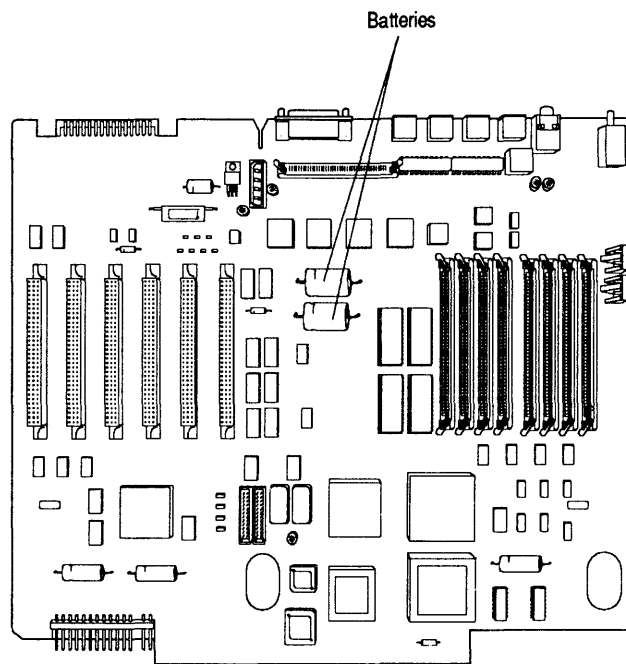

Figure 5-1
2. **Figure 5-1.** Locate the two batteries or the two battery holders on the front of the logic board.